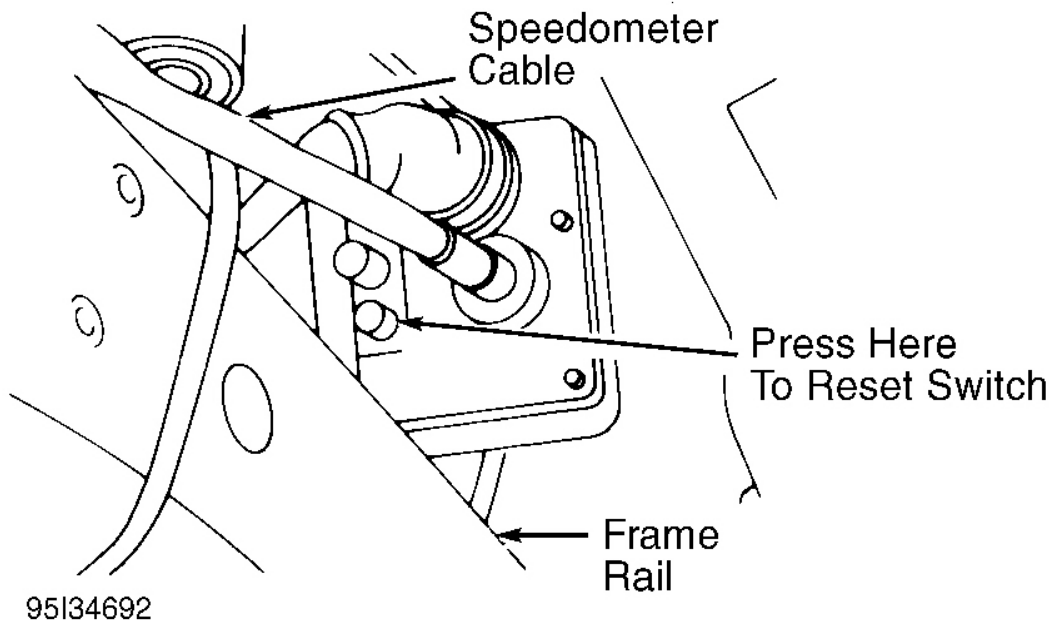

Fig. 1: Locating Oxygen Sensor Warning Light Reset Switch (All BMW Models Before 1983)
3. On all other models, trace speedometer cable to interval switch (in-line with cable, mounted on frame rail left of transmission). Press White reset button. See **Fig. 1**. Ensure warning light is out.